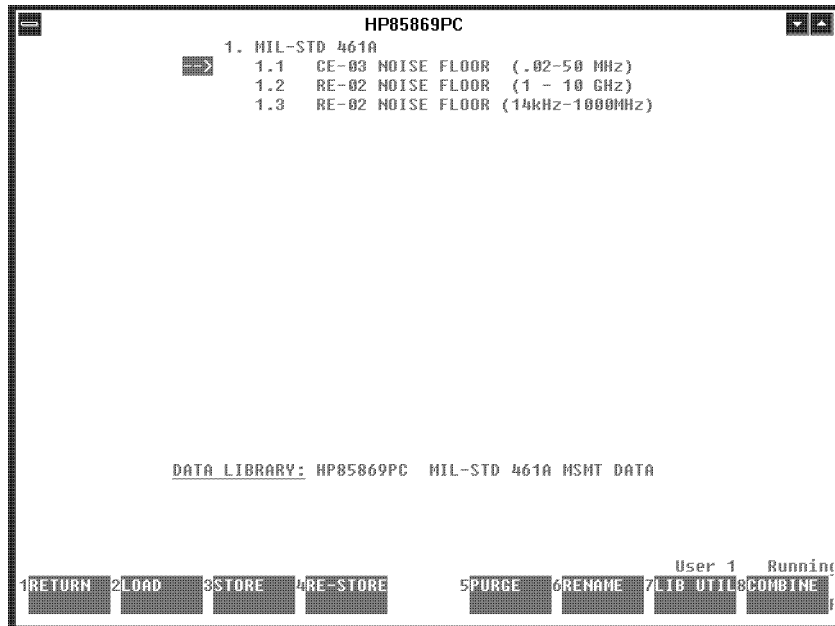

Figure 6-13. Sample Data Library for MIL-STD 461A
- MIL-STD 461A Measurement Data shown in Figure 6-13